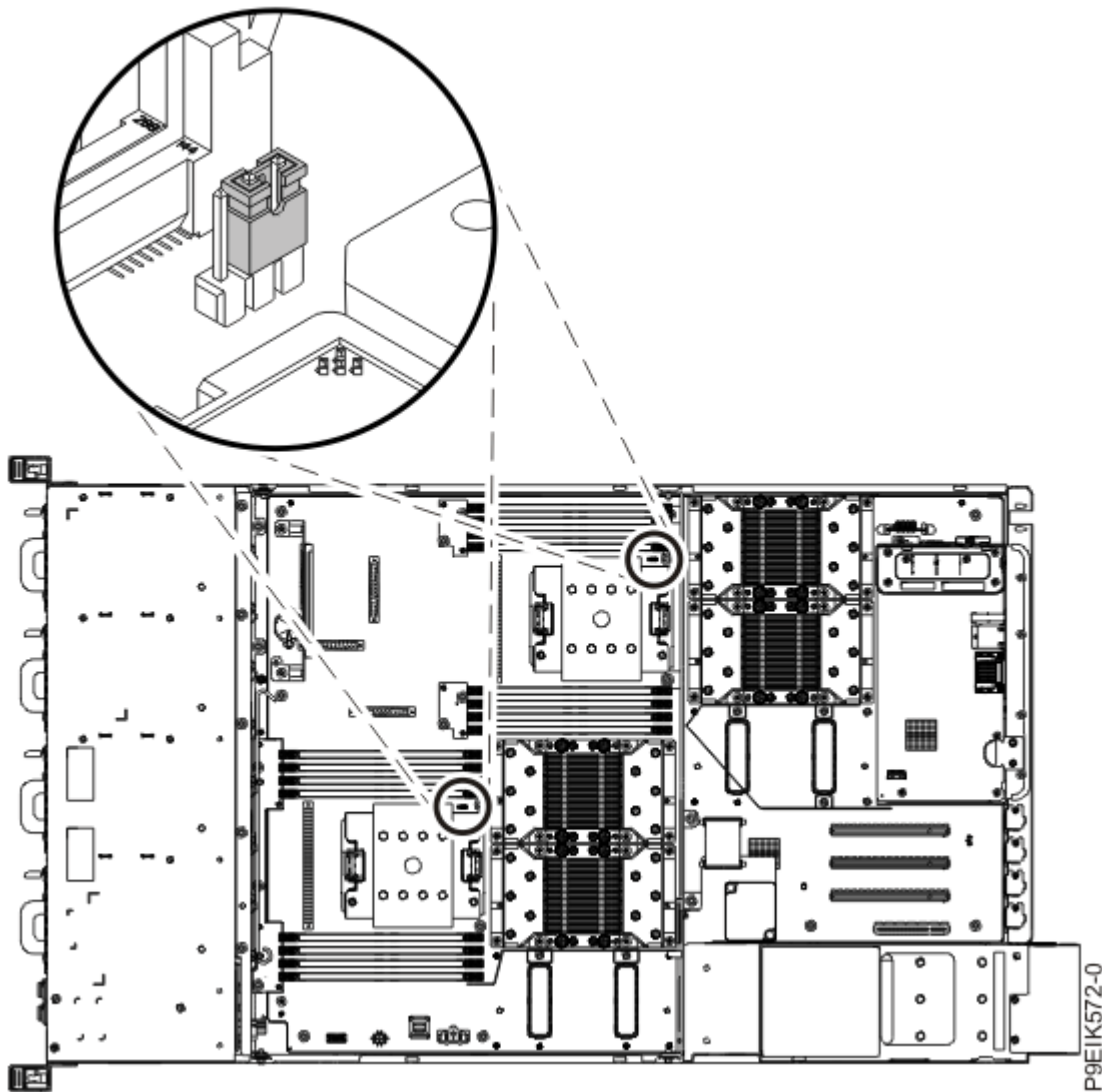

Figure 78. System processor jumper positions
12. Remove the system processor jumpers from the system backplane as shown in Figure 78 on page 128.